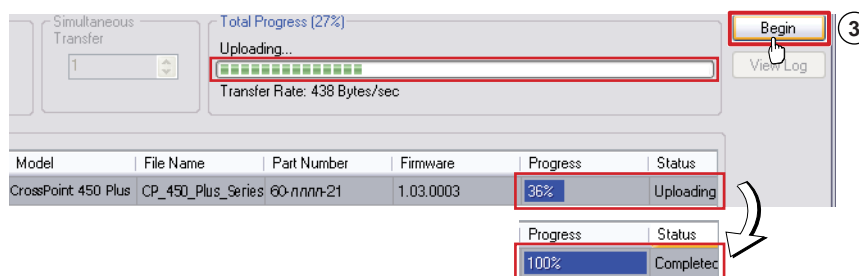

Figure 72. Firmware Loader Screen
3. In the Firmware Loader window, click **Begin** (see figure 72).